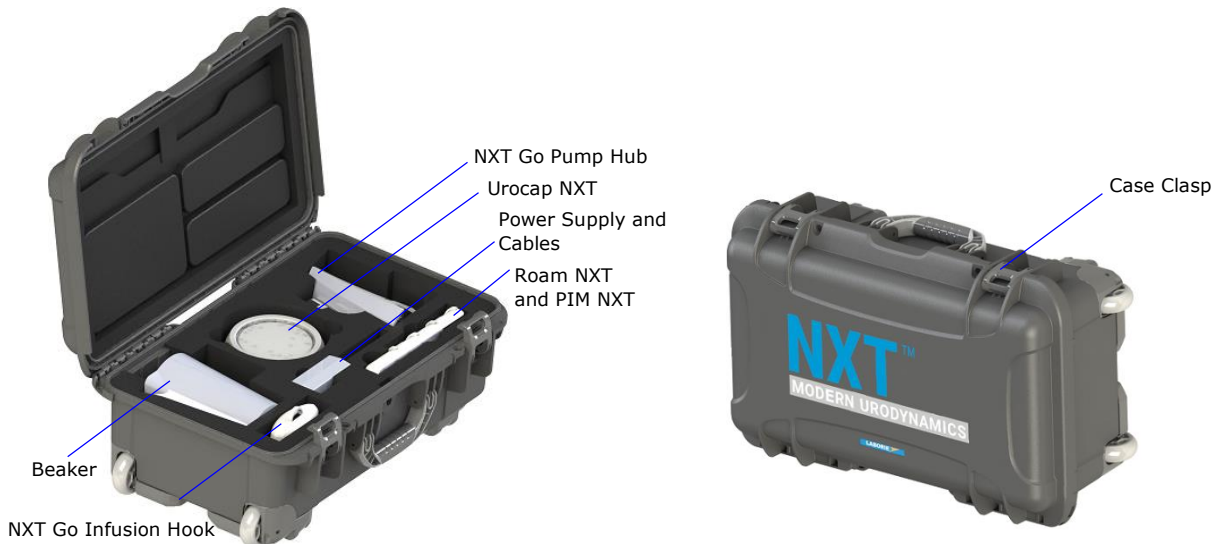

Figure 79: NXT Go Carrying Case
1. Place the NXT Go components into the carrying case. Refer to Figure 79 for the placement of each component.